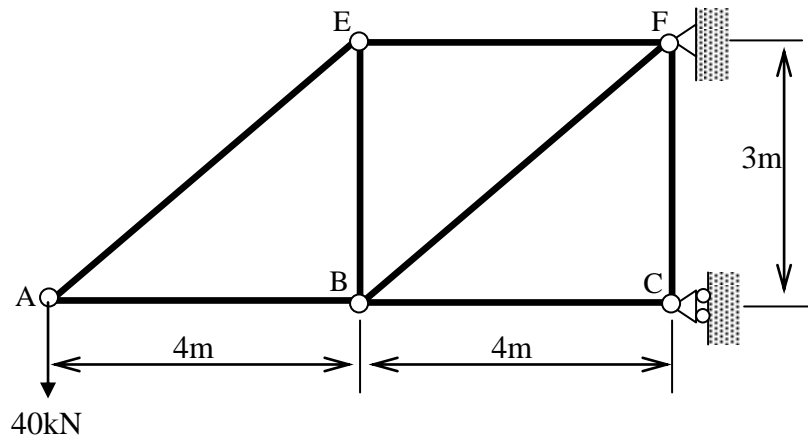

Figure 1.0
- (b) Figure 1.0 shows a seven-member truss for a roof structure subjected to a load of 40 kN at joint A. Support F is a pin and support C is of roller type. Length and cross sectional area of members of the truss together with the member forces are shown in Table 1.0. An additional member E-C with the same cross-sectional area has been considered to be added to the truss structure.